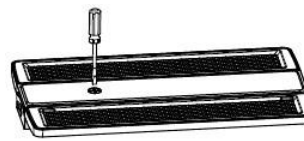

Figure 3
1. Using a screwdriver, remove the 1/2" plug located between the fixture's two lenses to reveal a socket (Figure 3).